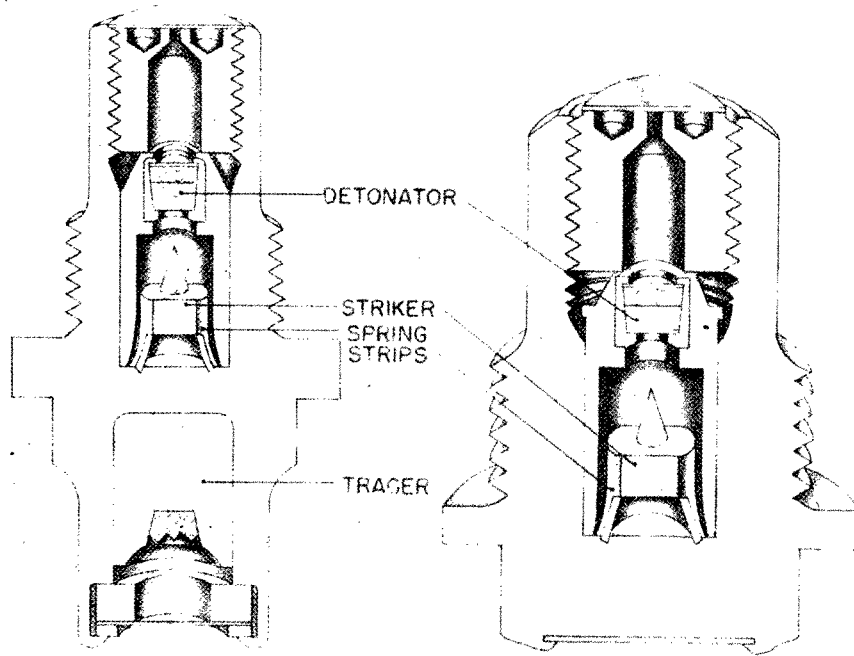

Figure 599—Bd. Z. 1511 and Bd. Z. 1512
**EMPLOYMENT:** Base fuzes used in German 20-mm ammunition. (See fig. 599.)